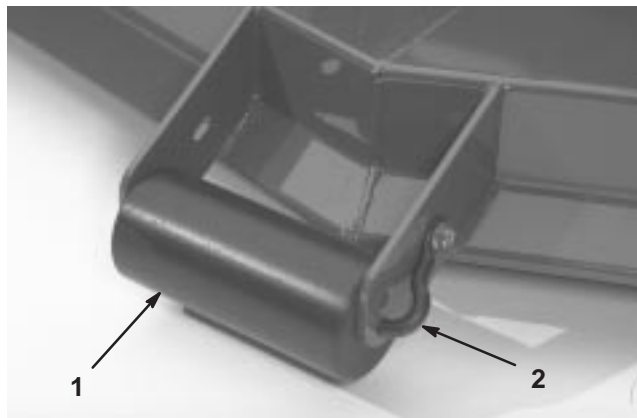

Figure 14
1. Remove the capscrew and nut securing the roller shaft to the cutting unit bracket (Fig. 14).